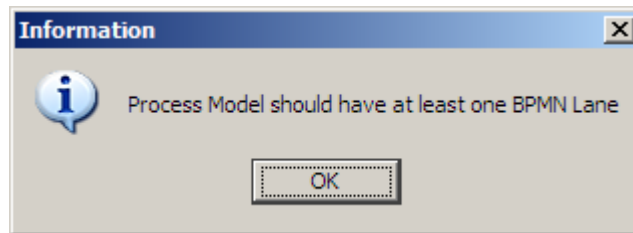

Figure 7.31: Delete Alert
2. If there are more than one swim lanes in the Pool, then the selected swim lane and all associated activities within that swim lane get deleted. Else the following screen is displayed (see Figure 7.31).